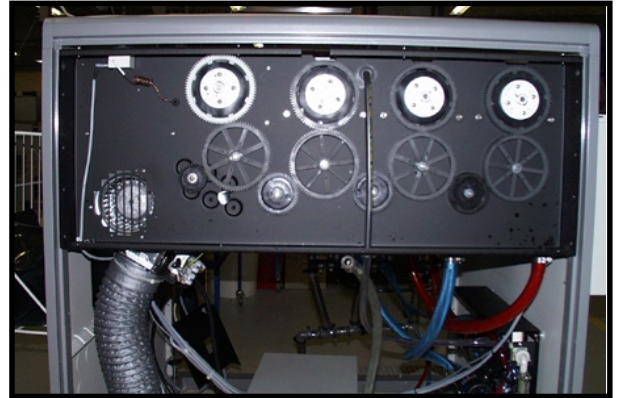

Fig. 1
2. Remove the side plate of the processor. See fig 1.